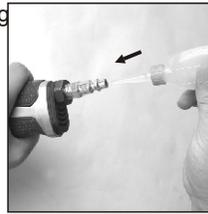

Figure 3
3. Place 2- 3 drops of air tool oil (not included) into the male plug before each use. (See Figure 3)